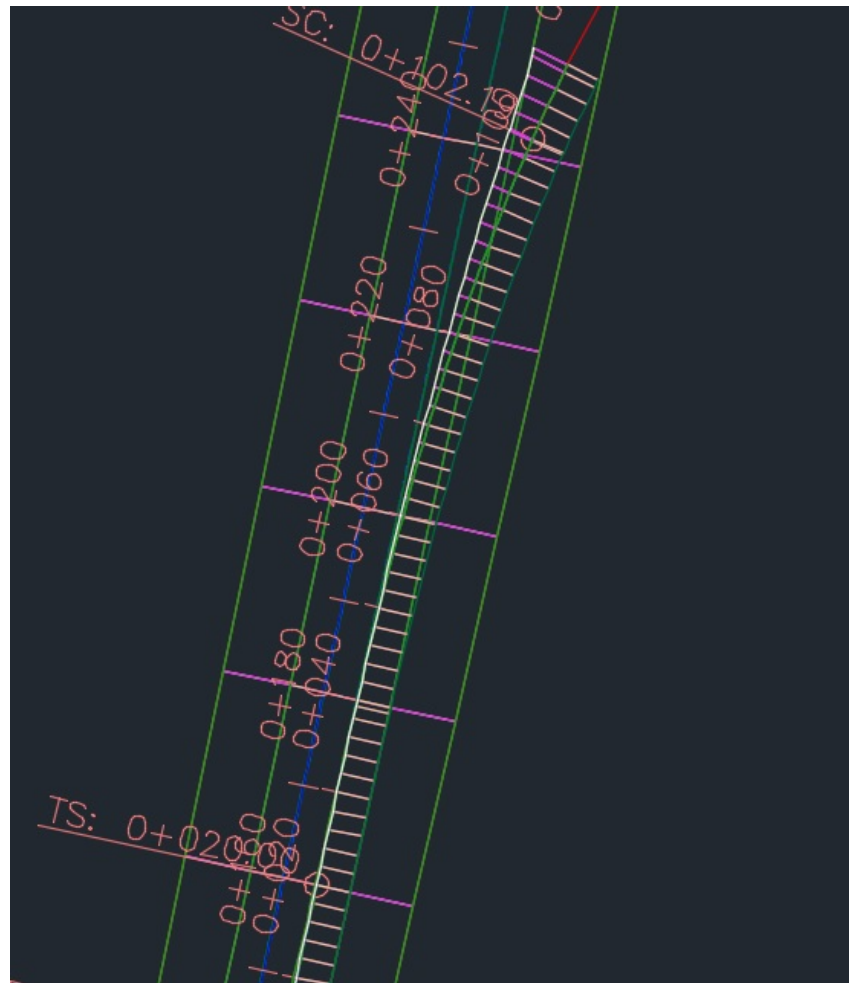

Fig. 10. Line of intersection between corridors.
**REMARK:** notice that the right side of the assembly AL2-AS1 does not reach the surface CORR1 – (1). In fact, **the right target surface could be defined as empty**. The aim of this technique is for the intersection between both corridors to be available at the left side of CORR2. See fig. 10.